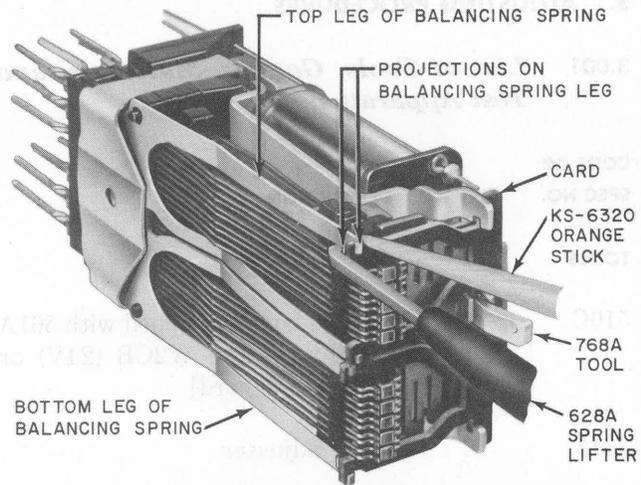

Fig. 6—Method of Removing Balancing Spring Leg From Card
- (1) If the balancing spring tension or armature back tension requirements are not met for the upper half of the relay, increase the tension of the top leg of the balancing spring as covered in (2) through (4). If the requirements are not met for the lower half of the relay, increase the tension of the bottom leg of the balancing spring in a similar manner. Do not attempt to adjust the two legs of the balancing spring at the middle of the relay.
- (2) Block the relay operated using the 768A blocking tool. In the case of the upper half of the relay, remove the top leg of the balancing spring from the card and, in the case of the lower half, remove the bottom leg. To remove the top leg, hold the 628A balancing spring lifter in the left hand and insert the lifter next to the leg so that the end of the lifter is just behind the comb. Roll the end of the lifter under the leg of the spring so that it rests in the groove of the lifter. Then draw the lifter forward to the position shown in Fig. 6. With the other hand, place the end of the KS-6320 orange stick on the top edge of the card to the right of the balancing spring leg as shown in Fig. 6. Lift the leg of the spring upward with the lifter, and at the same time press the card downward with the orange stick. When the leg of the spring clears the top of the card, move it toward the left so that it is free of the card. Withdraw the lifter. To remove the bottom leg of the balancing spring, proceed as covered above except roll the end of the lifter over the top edge of the spring leg and push the leg downward while pressing upward against the bottom edge of the card with the orange stick.
- (3) The legs of the balancing spring are pretensioned as indicated by the bend in each leg; therefore, do not attempt to remove the bend as this would make it impossible to obtain a satisfactory tension adjustment. Exercise care not to slide the spring adjuster over the bend in the spring leg.